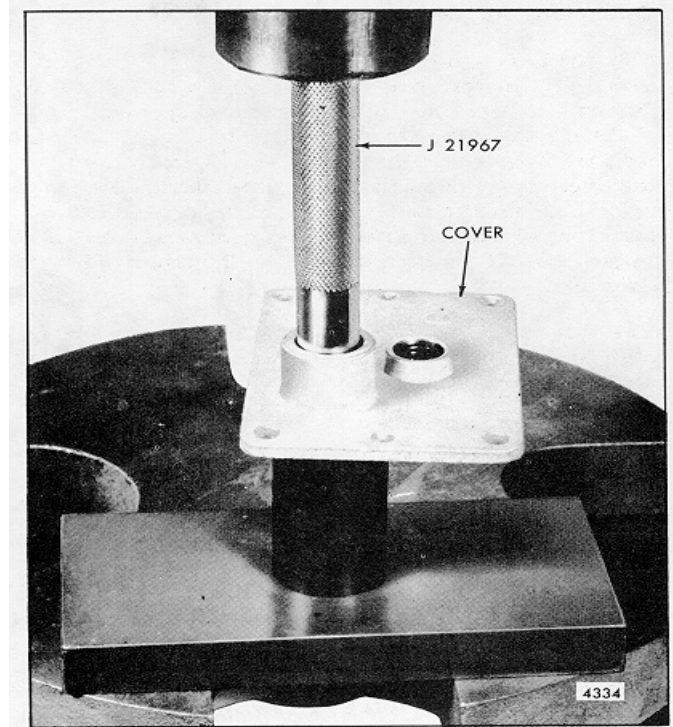

Fig. 3 - Removing Needle Bearing from Governor Cover
8. If needle bearing removal is necessary, place the inner face of the cover over the opening in the bed of the arbor press (Fig. 3). Place the bearing remover J 21967 on top of the bearing and under the ram of the press, then press both bearings out of the cover.